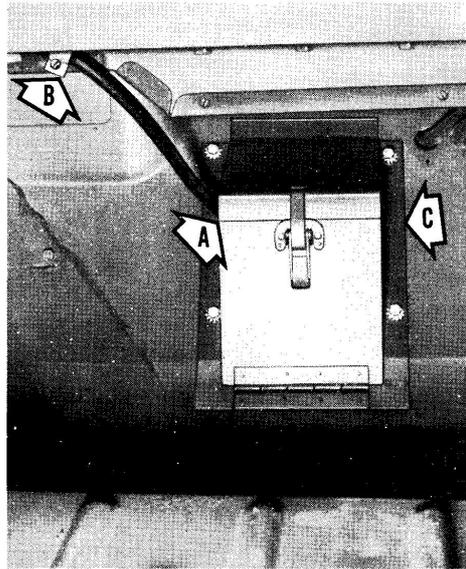

Fig. 29. (A) Heater power lead routed. (B) Heater Power lead clamped to lower battery compartment cover. (C) Upper heater shield bolted in place.
- d. Pass the heater power lead from the heater through the upper heater shield, Fig. 29.
- g. Using the existing bolts and the 1/2" clamps supplied in the kit, clamp the heater power lead to the lower battery compartment cover, Fig. 29.
- h. Secure the heater shield as shown in Fig. 29.